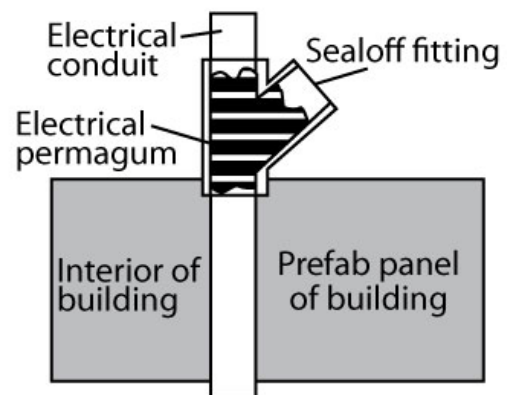

Figure 17
- C. Condensation in electrical junction boxes is caused by warm vapor passing from the exterior to the interior of the Walk-In through electrical conduit lines. This problem can be eliminated by installing a seal-off fitting in the conduit line where it passes through the wall. Install the fitting as shown in Figure 17 and fill it with sealant.